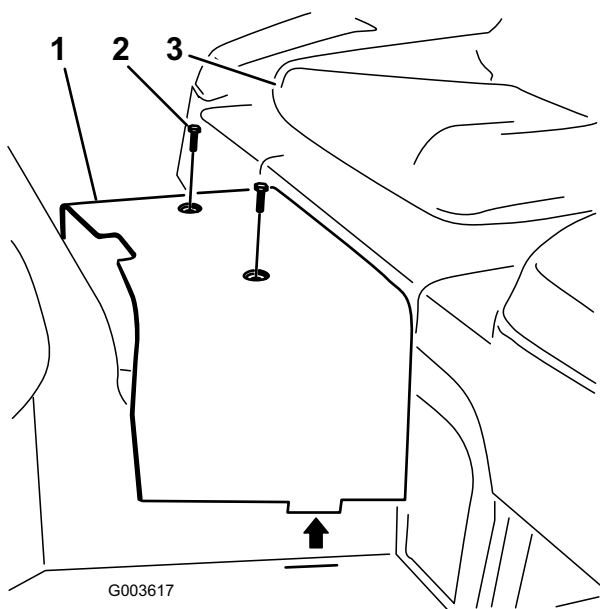

Figure 6
7. Remove the 2 screws securing the center shroud to the frame (Figure 6). Remove and retain the shroud.